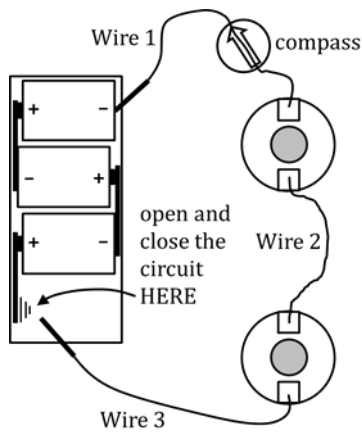

Fig. 1.2d
16. Disconnect Wires 1 and 3 from the battery pack, then turn the pack around so that Wire 1 is now connected to the nub (the (-) terminal) and Wire 3 is closest to the "fourth spring" (the (+) terminal). (See Fig. 1.2d.) This technique is called "reversing the battery orientation."
17. Now, essentially repeat Steps 4-14, now that the battery orientation has been reversed. This time, you will connect and disconnect Wire 3 (instead of Wire 1) at the (+) battery terminal. Each time you test a wire, you ROTATE the entire circuit (like turning the steering wheel in your car). For every wire, be sure to hold the wire PARALLEL to the compass needle BEFORE closing the loop at the (+) battery terminal. Refer to Figs. 1.2d-f for visual guidance. NOTE that the compass STAYS IN PLACE; the circuit is merely rotated around the compass.